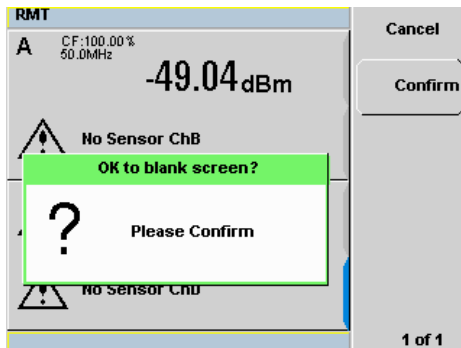

Figure 2-51 Password reconfirmation pop-up
- When the correct password is successfully entered for the second time, you will be prompted for confirmation before the screen is blanked (see Figure 2-51). Press **Confirm**.